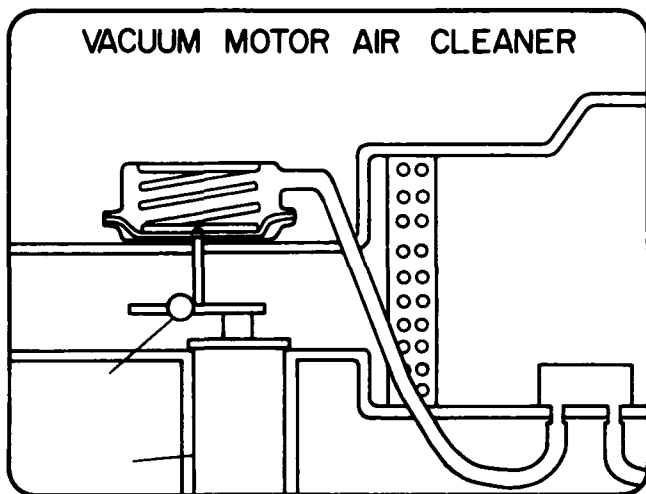

Figure 5-24
2. Fig. 5-24 shows a vacuum motor air cleaner. List the basic steps of the operational checks.